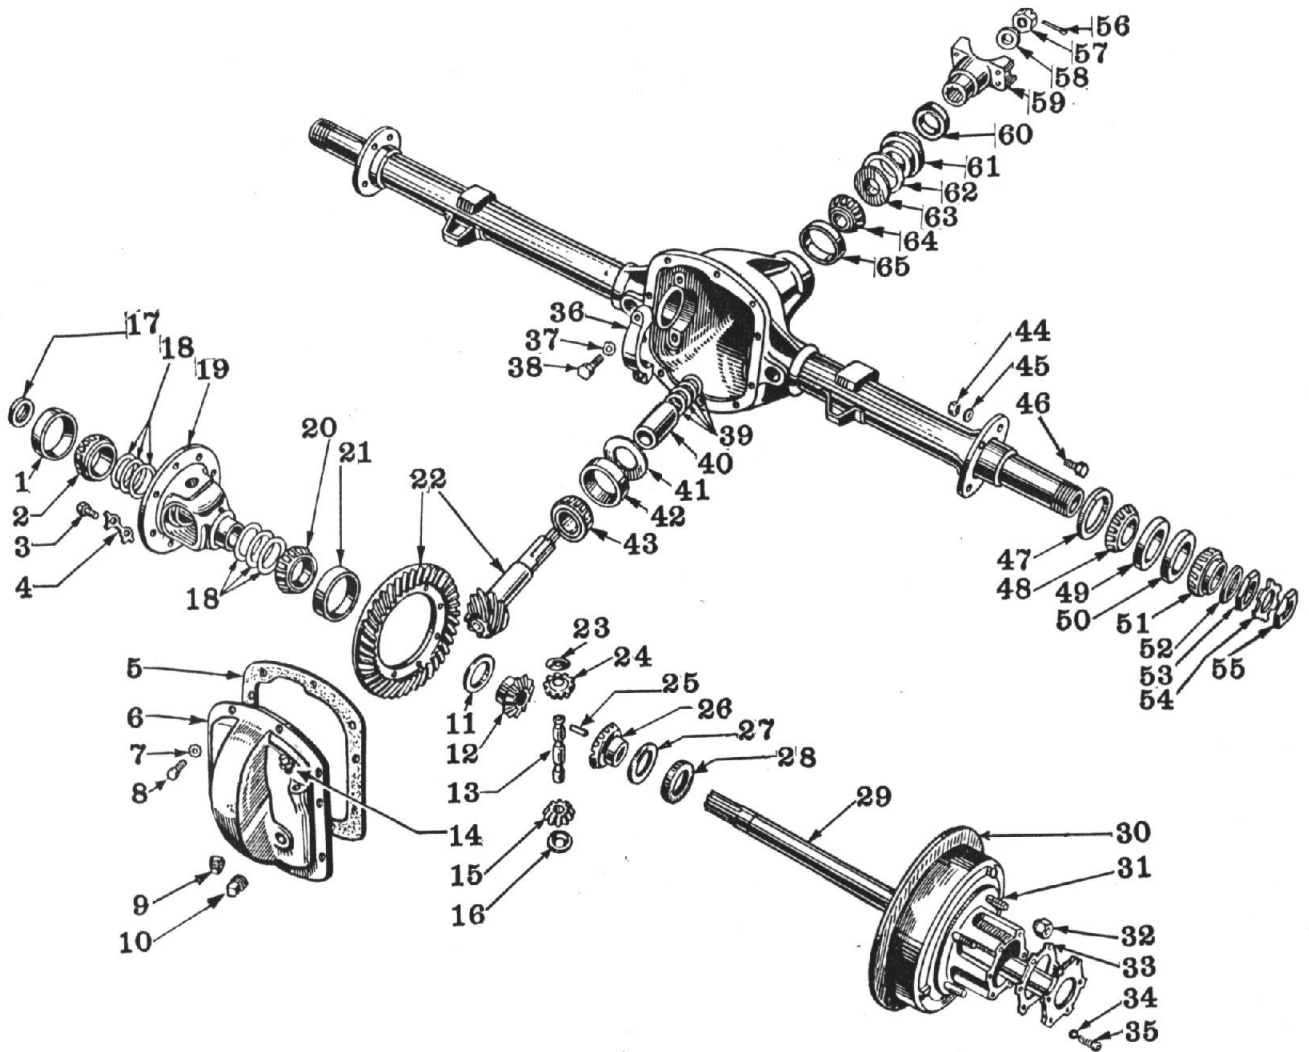

FIG. 1—REAR AXLE ASSEMBLY
The rear axle Fig. 1 is the full-floating type designed so that the axle shafts can be removed without disturbing the wheels. The differential drive is of the hypoid type, having a ratio of 4.88 to 1; 8 tooth drive pinion, 39 tooth drive gear.
To remove the axle shaft, No. 29, Fig. 1, the following procedure should be followed:
Drain lubricant from gear carrier housing and then remove gear carrier cover, No. 6, Fig. 1, flushing out unit thoroughly so that the parts can be carefully inspected.
4. Remove the cap screws No. 3, Fig. 1, holding the bevel drive gear No. 22 on the differential case No. 19.
7. Remove differential pinion gears, No. 15 and 24, Fig. 1, care being taken not to lose the pinion thrust washers, No. 16 and 23.
Wash all parts in suitable cleaning fluid, taking care not to lose any of the shims No. 39, Fig. 1 which adjust the pinion shaft bearing running tolerance.
Before attempting to adjust the ring gear or differential parts the drive pinion should be carefully checked and adjusted. The setting of the pinion is accomplished by the use of shims No. 41, Fig. 1 between the rear bearing cup No. 42 and the housing. These shims are available in thickness of .003", .005" and .010".